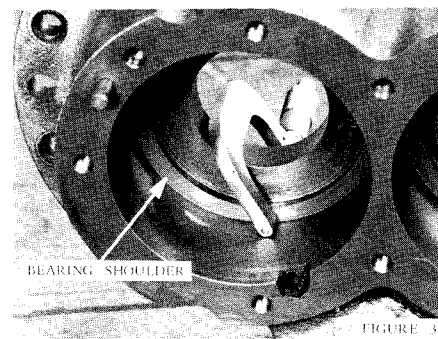

FIGURE 3
- With 0-2" outside micrometer, measure from the side of the discharge end plate to the shoulder in each bearing bore, Figure 3, match and record with measurement made on main and secondary rotors in Step 2. These measurements are to be used later.